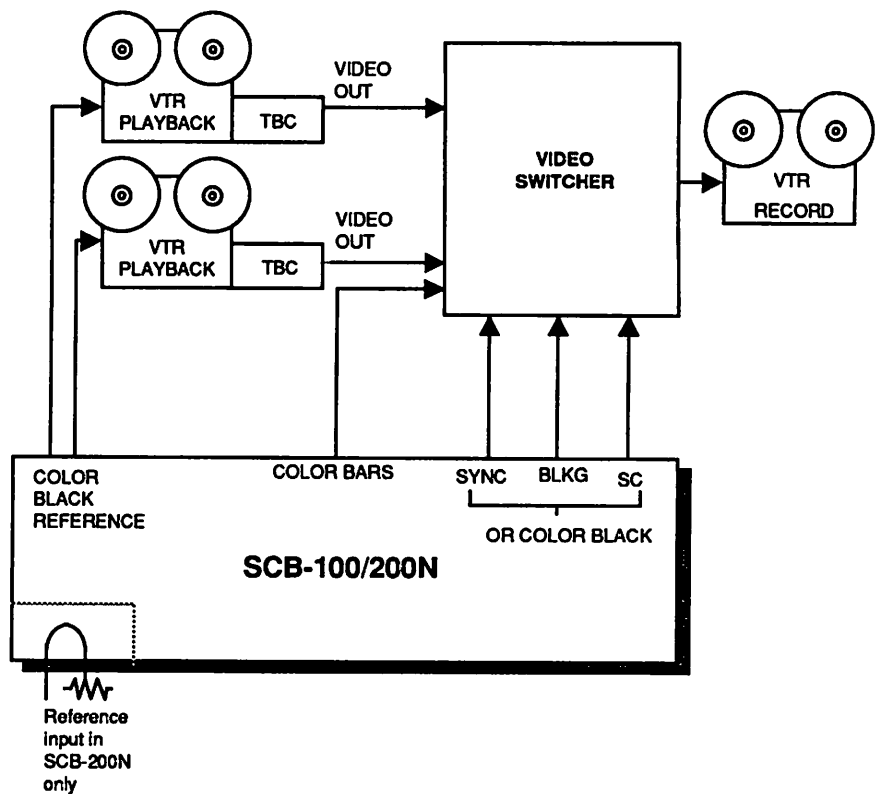

Figure 1. Using The SCB-100N/200N In A Basic Editing System
Figure 1 below shows a simple editing system using your SCB-100N/200N, VTRs, and a switcher. This system shows separate sync, blanking (BLKG), and subcarrier (SC) pulses as reference inputs to the switcher. (Many switchers however, including GVG's Model 100, may be equipped with options which allow them to use a single color black reference from the SCB-100N/200N, rather than three individual signals.) Since VTRs produce some jitter (instability) at their outputs, it is necessary to include internal or external time base correctors (TBCs) to eliminate the jitter.